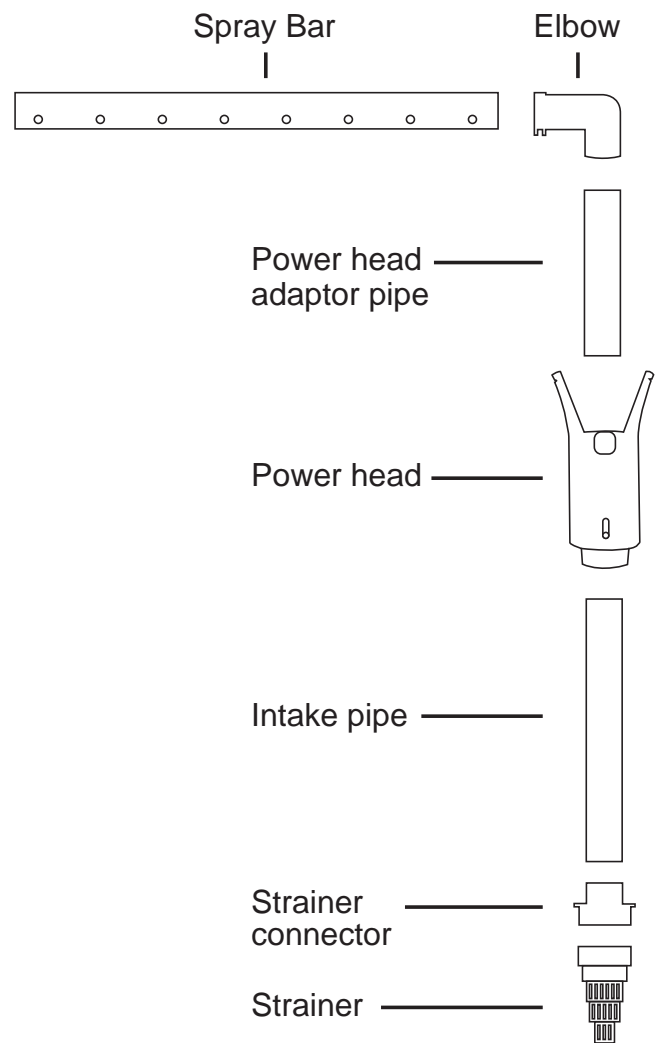

Fig 1.
1. Place the powerhead inside the aquarium and then feed the Powerheads plug out of the aquarium through the square cut out, Fig 1 (a). Tip, feed the plug through at an angle with the plugs pins facing towards you.
2. You can now clip the powerhead into place in the square cut out, Fig 1 (a).
3. Attach the powerhead adaptor pipe, through the small circle cut out Fig 1 (c), to the top of the powerhead.
5. Insert the spray bar into the circular part cut out, Fig 1 (b) in the media section of the filter tray compartment. Then attach the elbow to the powerhead adaptor pipe.
8. If desired, to help with aeration, a venturi valve is also included with your filter parts. To connect this, first remove the small black cover from the venturi fitting on the front of the powerhead, Fig 3. Then attach the flexible transparent venturi pipe. The venturi valve can then be passed through the cut out, Fig 1 (a) and sit outside of the aquarium.